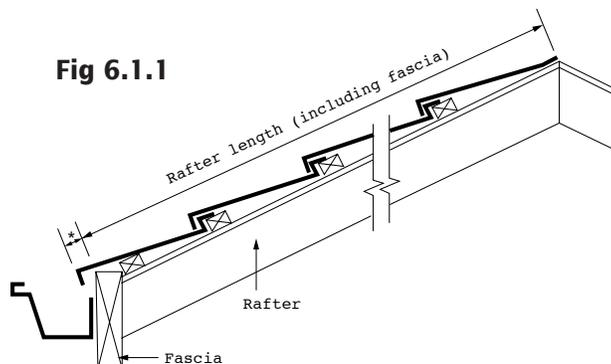

Fig 6.1.1
- (i) Determine the rafter length (Fig 6.1.1.) and calculate the number of courses of tiles from Table 6.1.2. Always ensure that fractional tiles are counted as whole tiles as these will have to be cut at the ridge board.